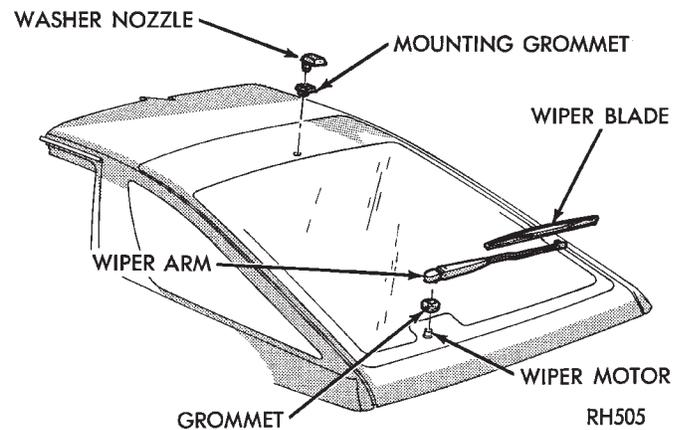

Fig. 17 Liftgate Wiper Grommet
- (1) Remove arm and blade assembly, refer to Arm and Blade Removal.
- (2) Unlock and open liftgate.
- (3) Remove trim panel refer to Group 23, Body.
- (4) Disconnect feed wire connector from motor.
- (5) Remove grommet from liftgate glass (Fig. 17).